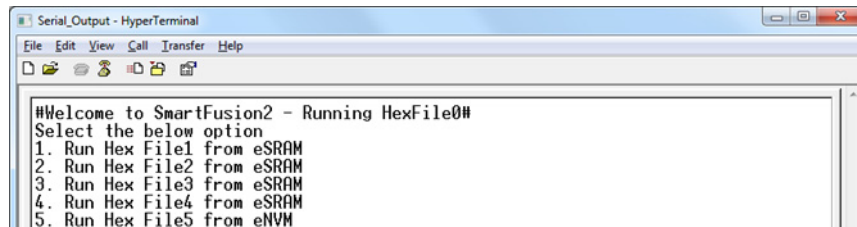

Figure 52 • Running Hex File - User Options
8. The serial terminal program displays the user options as shown in Figure 52.